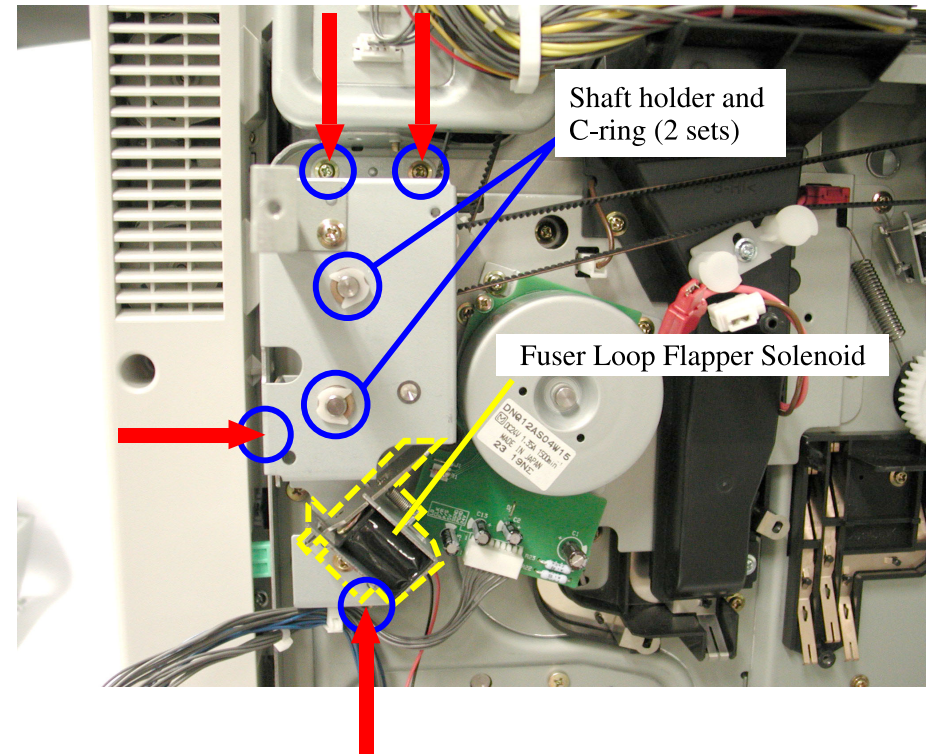

Figure 4-56. Removing the Fuser Deceleration Drive Assy
6. Remove the C-rings and shaft holders from the two shafts mounted on the Fuser Loop Flapper Solenoid. (See "Figure 4-56 (p.200)")